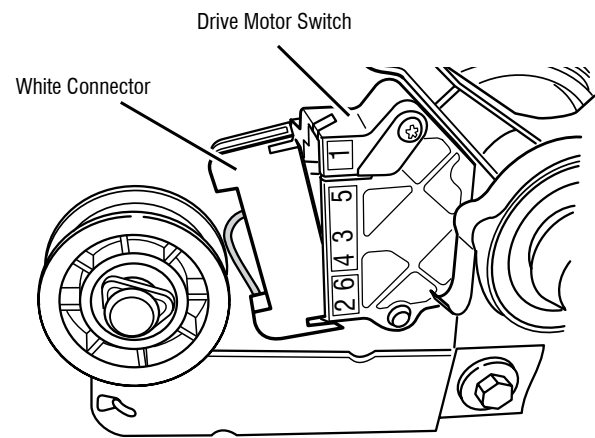

Figure 9 - Remove white connector
- Remove the white connector from the drive motor switch. See figure 9.